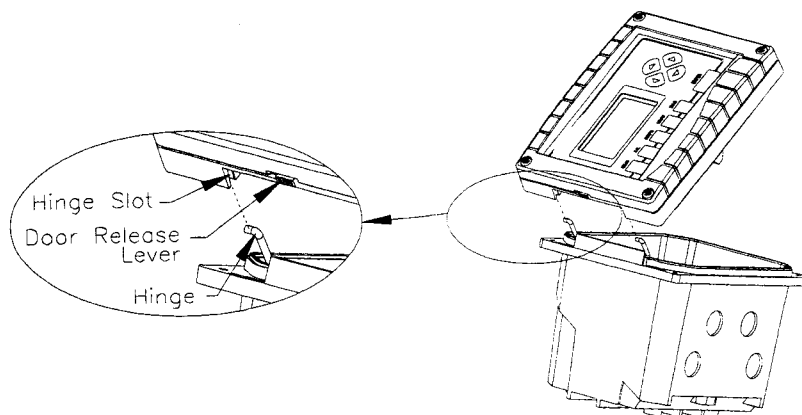

FIGURE 4-1 Analyzer Door Attachment Details
3. While holding the door, slide the door release lever (Figure 4-1) upward to release the door from the hinge.
To attach the analyzer door, refer to Figure 4-1 and: